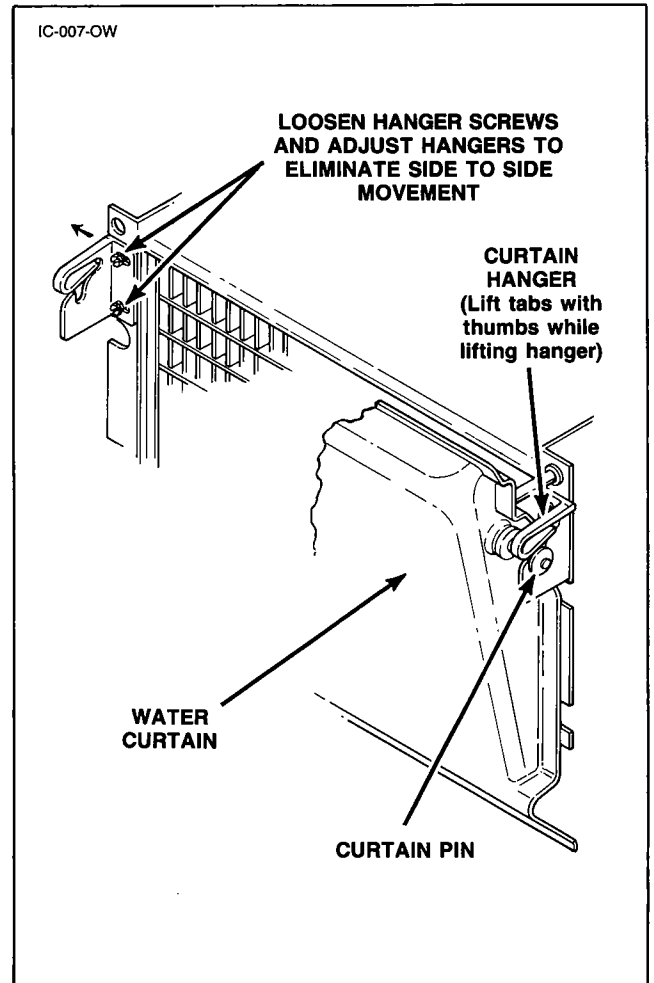

FIGURE 7 WATER CURTAIN CHECK
Water Curtain Check (Figure 7)
4. Remove water curtain, Figure 7.